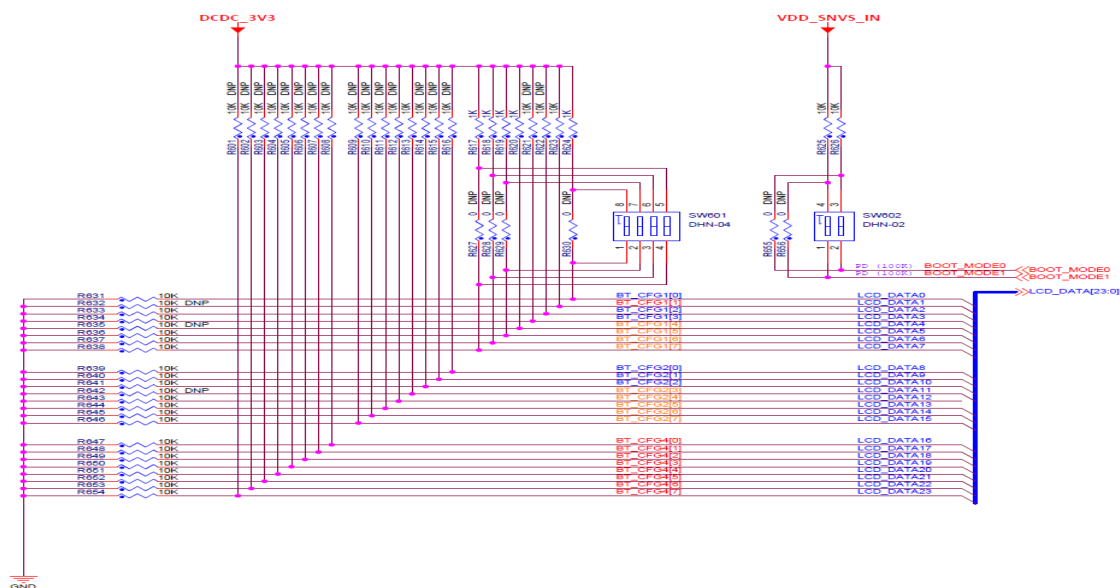

Figure 1. Boot configuration for development mode
1. When LCD boot signals are used as the system's LCD signals, other functions, or GPIO outputs after boot, use a passive resistor network to select the desired boot mode for development boards.	Because only resistors are used, LCD bus loads can cause current drain, leading to higher (false) supply current measurements. Each LCD boot signal should connect to a series resistor to isolate the bus from the resistors and/or switchers; see <a href="#">Figure 1</a> . Each configured LCD boot signal sees either a 10 k $\Omega$ pulldown or a 10 k $\Omega$ pullup. For each switch-enabled pulled-up signal, the supply is presented with a 10 k $\Omega$ current load. An alternate approach using buffers is implemented in the i.MX 6UltraLite EVK development board design. Either of these implementations is acceptable.